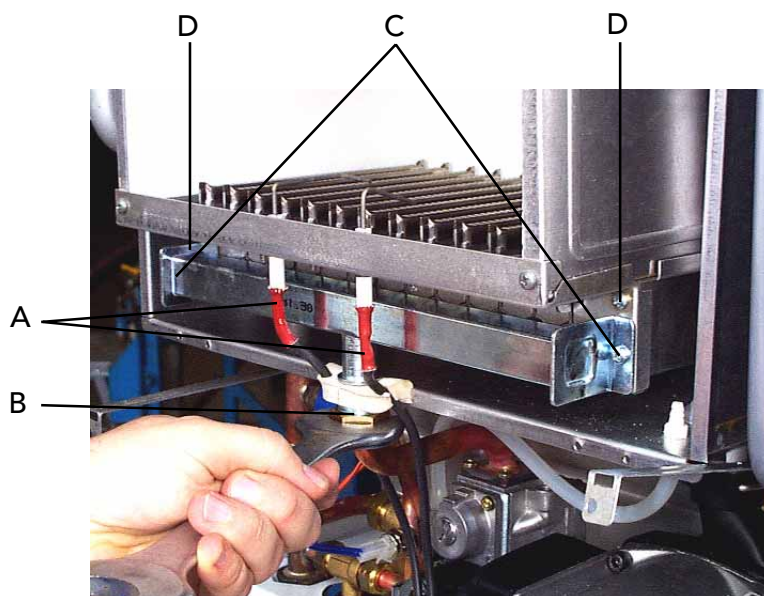

Fig. 40
7.08 Removal of burner (fig. 40)
7.09 Injectors (fig. 40)